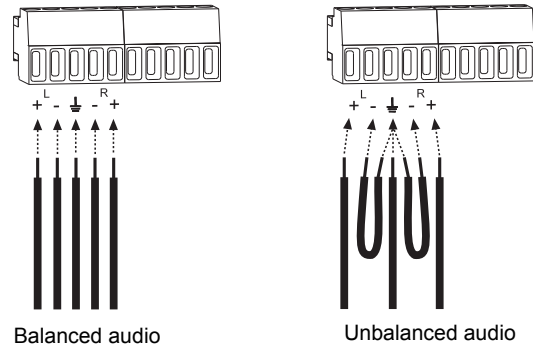
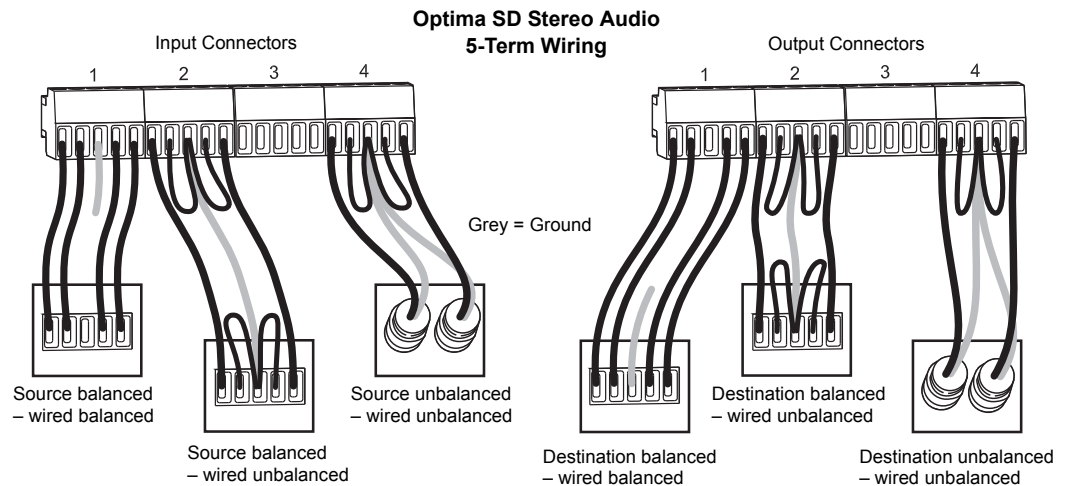

FIG. 24 Balanced & unbalanced stereo audio wiring
FIG. 25 Options for source-to-Optima SD-to-destination 5-term wiring
2. Insert the wires (FIG. 24) for wire placement for balanced and unbalanced audio) and firmly re-tighten the clamps to make proper connections.
Source and destination devices will require either balanced (differential) or unbalanced (single-ended) connections. FIG. 25 illustrates the options for wiring between the sources and the input connectors and between the output connectors and the destinations. More than one of these options can be used in the same system. For balanced and unbalanced wiring details, see FIG. 24.